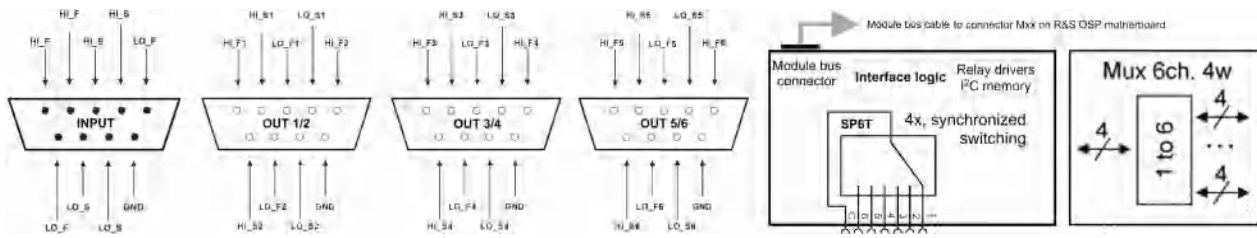

Figure 3-37: Pinout and block diagram of DC multiplexer module R&S OSP-B108
- The 4 **input** channels are available on the first 8 pins (in groups of 2) of the upper left 9-pin D-Sub connector (male). The remaining pin 9 is connected to ground (GND), see Figure 3-37.
- The **output** channels are available on the first 8 sockets, each, of the 3 other 9-pin D-Sub connectors (female). The remaining socket 9 of each output port is connected to GND, see Figure 3-37.